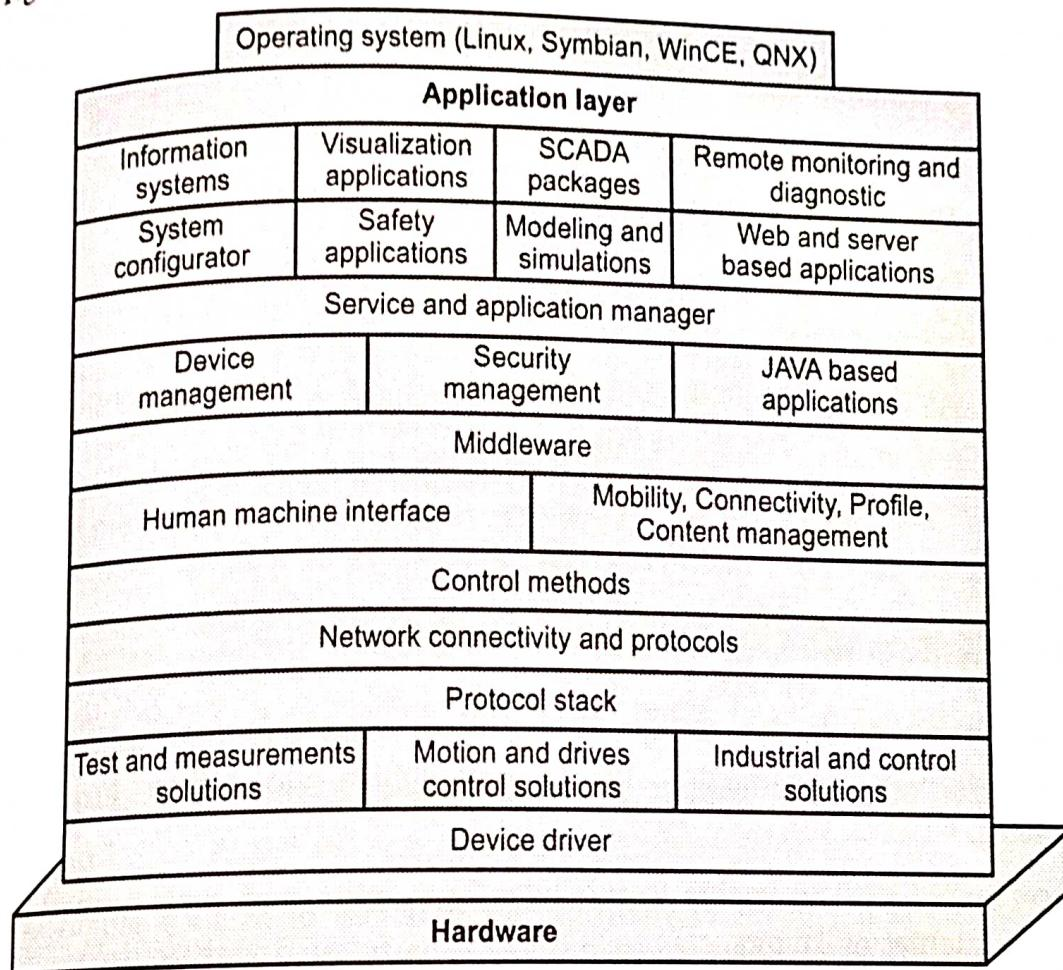

Fig. 4.4.5 : Middleware
- Fig. 4.4.5 show a typical SCADA middleware or platform architecture.